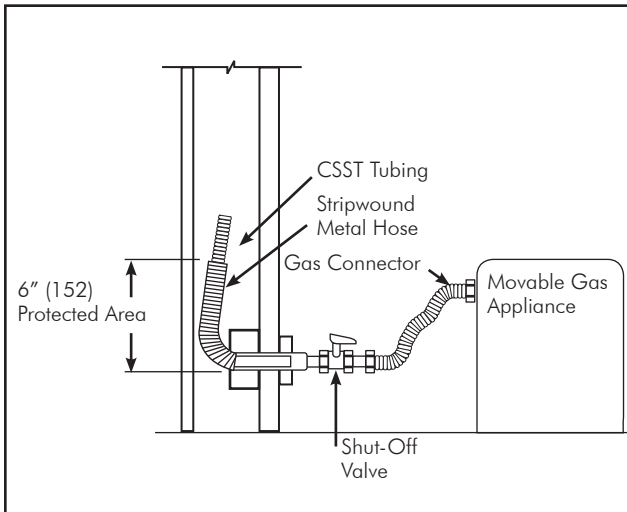

FIG. 4-21 Stainless Steel Gas Connector Connection to a Movable Gas Appliance
ALSO NOTE MINIMUM DISTANCES OF FLOPPY STEEL CONDUIT IN **FIG. 4-21 & 4-22**
- **Movable appliance connections**, such as ranges and dryers, shall be made using approved flexible appliance connectors (See FIG. 4-21).